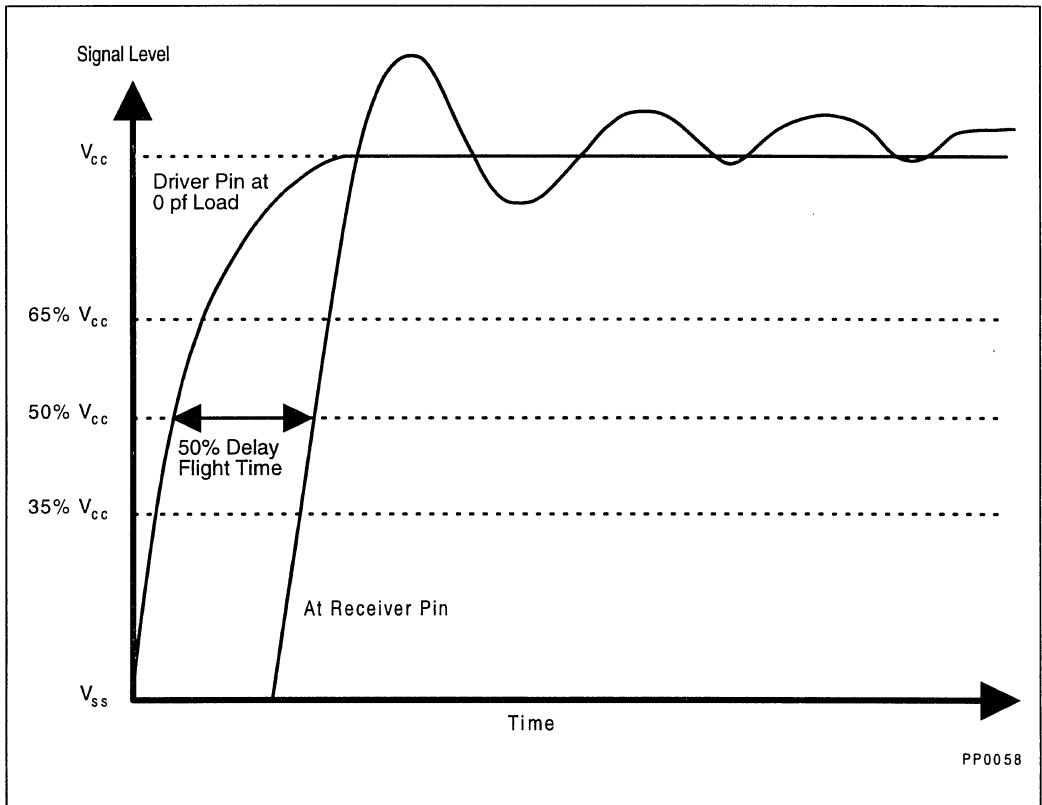

Figure 23-8.  $V_{cc}$  Measurement of Flight Time
29. This is a flight time specification, that includes both flight time and clock skew. The flight time is the time from where the unloaded driver crosses 1.5V (50% of min  $V_{CC}$ ), to where the receiver crosses the 1.5V level (50% of min  $V_{CC}$ ). See Figure 23.8.